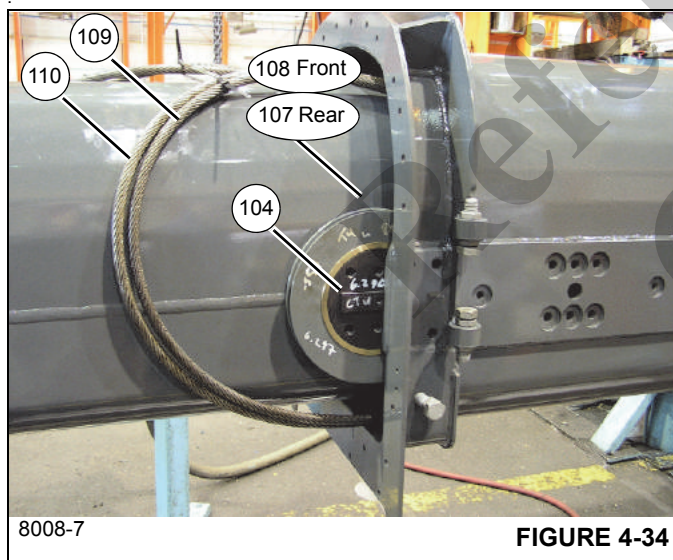
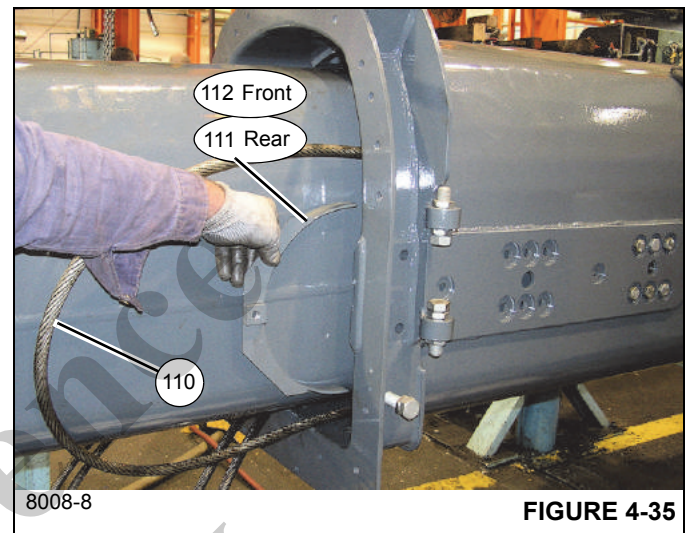
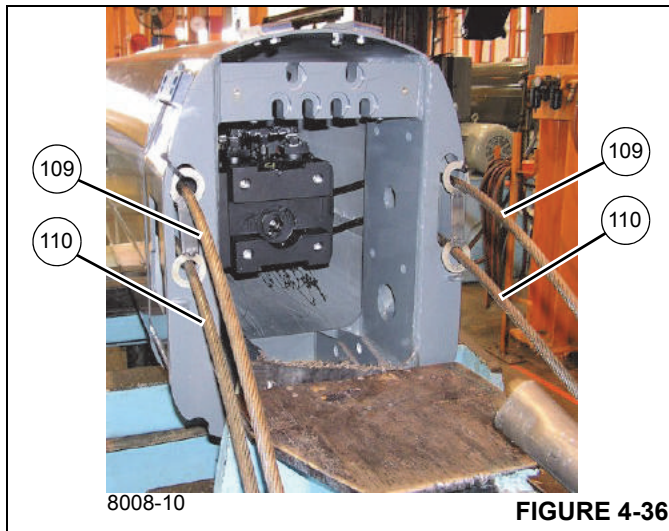

FIGURE 4-34
FIGURE 4-35
FIGURE 4-36
**NOTE:** Do not allow the wear pad (127) to hang from the grease hose, as the threads of the wear pad can be damaged. If wear pad threads are damaged, replace the wear pad; do not try to repair with thread tape.
25. Partially insert tele 4 (5) into tele 3 (4).
26. Use the shims (70) to adjust the tele 4 rear wear pad assemblies (128, 134) such that the wear pads are within 2 mm (0.08 in) of the sides and the bottom of tele 3. An equal number of shims should be used on each side.
27. Insert tele 4 (5) into tele 3 (4) until the loops in the tele 4 extend cables (109, 110) are close to the tip of tele 3 (4) (see Figure 4-34).
28. Using the shaft (104) and six capscrews (105), mount the rear sheave (107) to the inside of tele 3 (4) (left and
right sides) using the rear set of mounting holes (see Figure 4-34); ensure the rectangular tab on the shaft (104) slides into the groove in tele 3 (4).
29. Working at the rear of tele 3 (4), pull the tele 4 extend cables (109) until they seat into the sheaves (107).
30. Install the rear guard weldment (111) (left and right sides) over the tele 4 extend cable (109), where the cable wraps around the sheave (107), and secure with the capscrew (113) (see Figure 4-35).
31. Using the shaft (104) and six capscrews (105), mount the front sheave (108) to the inside of tele 3 (4) (left and right sides) (see Figure 4-34); ensure the rectangular tab on the shaft (104) slides into the groove in tele 3 (4).
32. Working at the rear of tele 3 (4), pull the tele 4 forward extend cables (110) until they seat into the front sheaves (108).
33. Install the front guard weldment (112) (left and right sides) over the tele 4 extend cable (110), where the cable wraps around the sheave (108), and secure with the capscrew (113).
34. Install the grease fitting (106) into each of the four shafts (104). Add grease until the grease extrudes through the sheaves.
35. Route the tele 4 extend cables (109, 110) through the slotted holes in the rear of tele 3 (4), ensuring the 109 cables and 110 cables are oriented as shown in Figure 4-36.